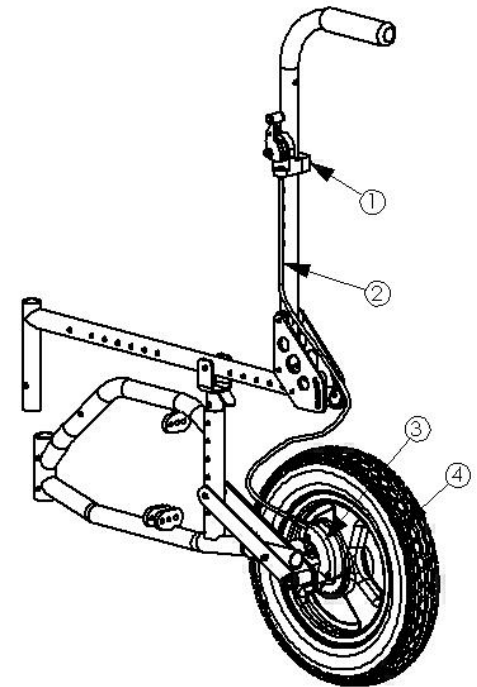

Figure 3
2. Remove 1-3/4" bolt from axle (Figure 2) discard bolt but save nut. Slide hub spacer over hub of 12" wheel axle (Figure 3).
3. Slide large hole of lower locking assembly (Item 3) over same hub so it's butted up against the hub spacer (Figure 3).